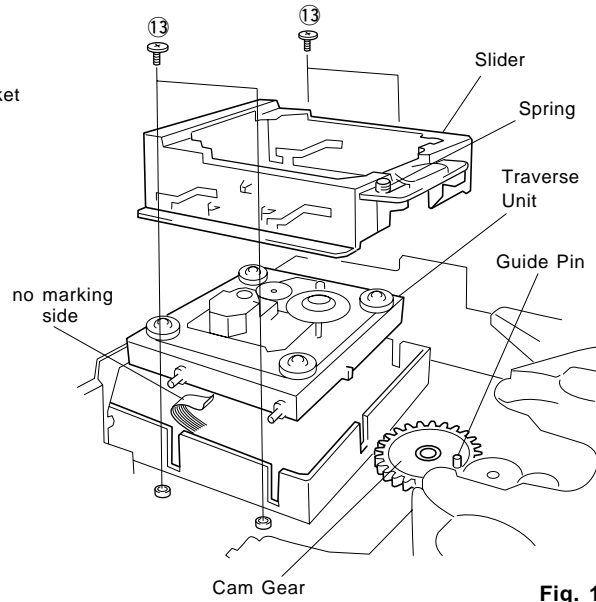

Fig. 11
- d. Remove 4 screws (⑬) and take out the Slider in Fig. 11.
- f. Remove the Traverse Unit in Fig. 11.
- b. Turn the Cam Gear until its Guide Pin comes to the position as shown in Fig. 11.